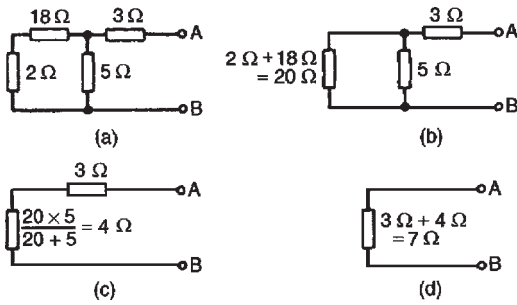

Figure 15.32
- (iv) The resistance 'looking-in' at terminals AB in Fig. 15.32(a) is obtained by reducing the circuit in stages as shown in Figs 15.32(b) to (d). Hence the equivalent resistance across AB is 7Ω .